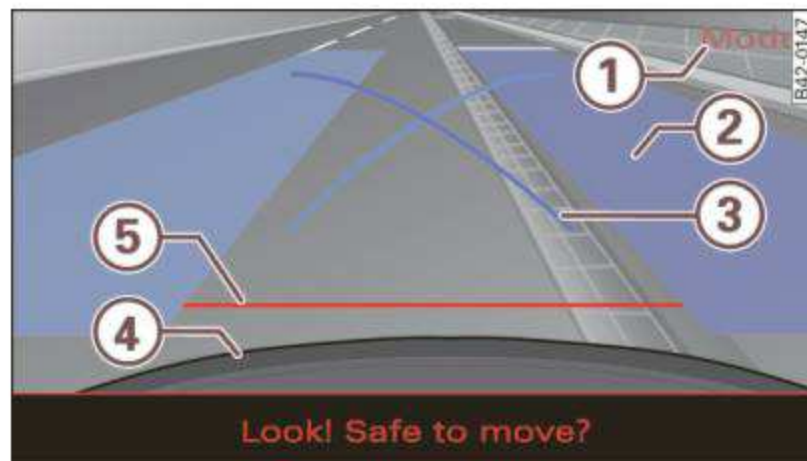
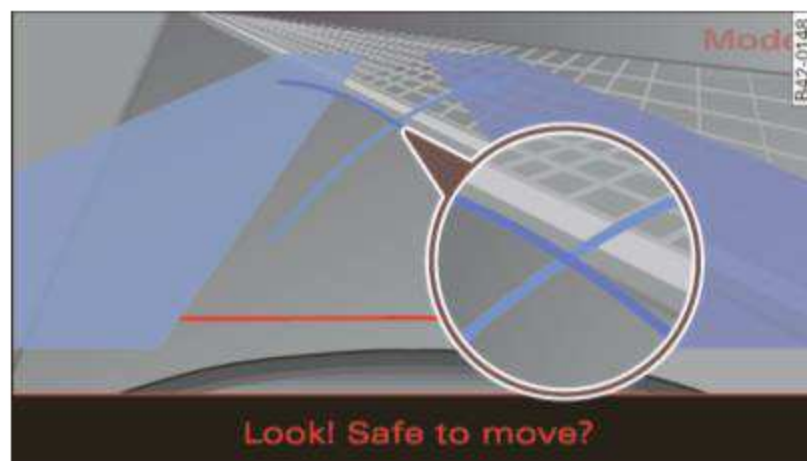

Fig. 80 Navigation system display: Blue surface aligned with parking spot
Fig. 81 Navigation system display: The blue curved line contacting the curb
- Press **Mode** (1) on the navigation system control button. Parking mode 2 appears ⇒ fig. 80.
- Back up and adjust the position of your vehicle so that the blue area (2) borders on the rear end of the vehicle or on the parking spot line. The blue area represents an extension of the vehicle's outline by approximately 5 m to the rear. The long side of the blue area should be on the curb. The entire blue area must fit into the parking spot.
- Stop the vehicle as soon as the blue curve (3) touches the curb ⇒ fig. 81.
- Continue to back up into the parking spot until the vehicle is parked parallel to the curb. (4) marks the rear bumper. You should stop driving in reverse when the red orientation line (5) meets an object, at the latest ⇒ !. Watch the front of the vehicle while doing this ⇒ !.
You will also need to start turning the steering wheel much earlier. There should be a sufficient amount of space between the curb and the blue curve, and the blue curve \Rightarrow *page 98*, fig. 81 must **not** touch the curb.